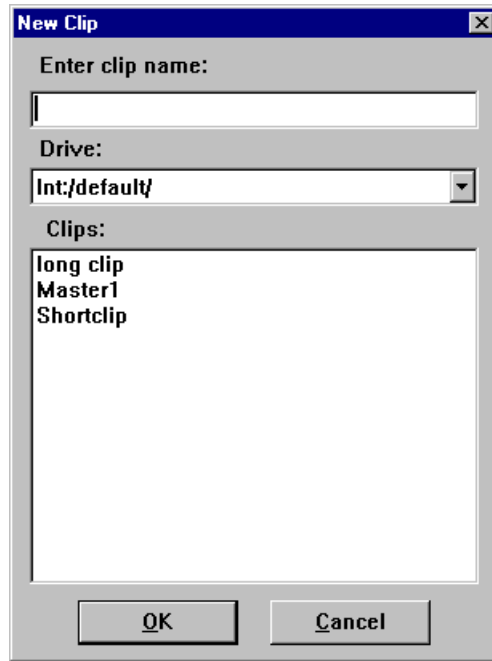

Figure 88. New Clip dialog box
2. Select **VideoClip | New Clip** to open the New Clip dialog box (Figure 88).